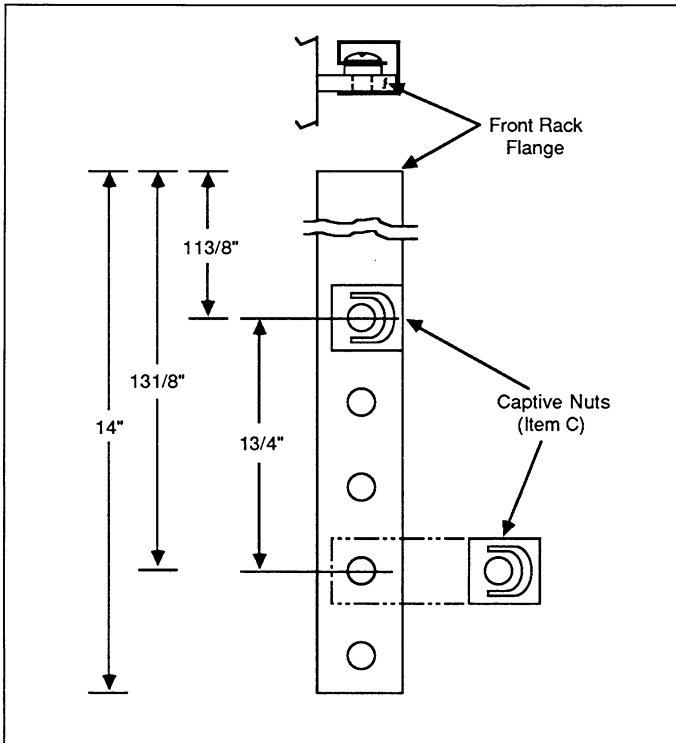

Figure 6-2. Captive Nut Installation
2. Referring to Figure 6-2, install two captive nuts (item C) on each front rack flange at holes 11-3/8" and 13-1/8" from the top of the selected space.